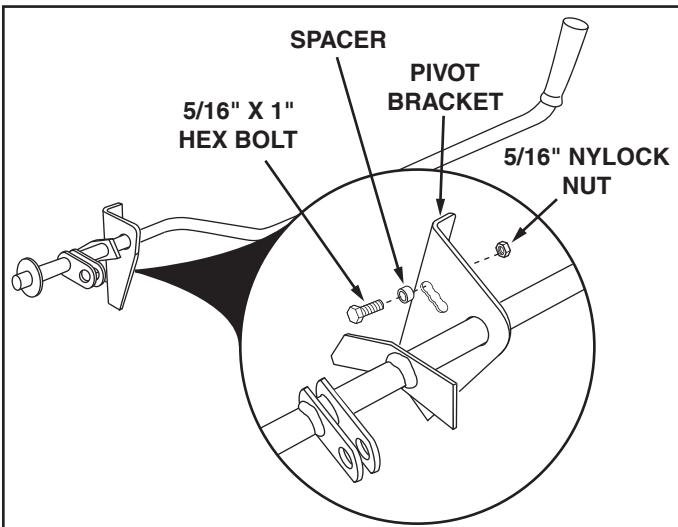

FIGURE 1
- (1) 15/16" Wrenches or Adjustable Wrenches
- Assemble a 5/16" x 1" hex bolt, a spacer and a 5/16" nylock nut to the three position slot in the Right Pivot Bracket on the Lift Lever Assembly. Use the position closest to the bend in the bracket (gives lowest implement depth setting). See figure 1.
- b. For closer adjustment, move the hex bolt assembled in figure 1 to a position in the three position slot that gives better levelling.